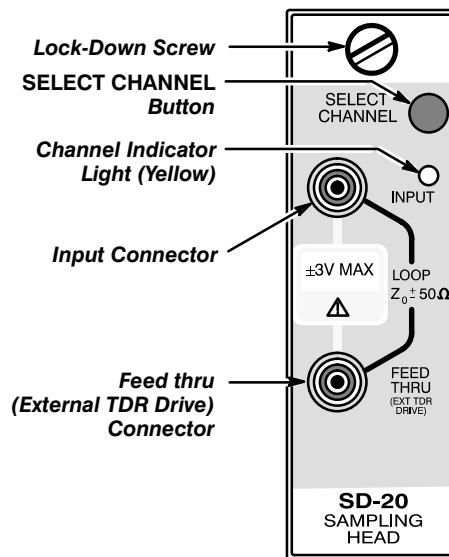

Figure 4: Sampling Head Front Panel
- Figure 4: Sampling Head Front Panel 11
Figure 4 shows the front panel of the sampling head and identifies the buttons, lights, and connectors.